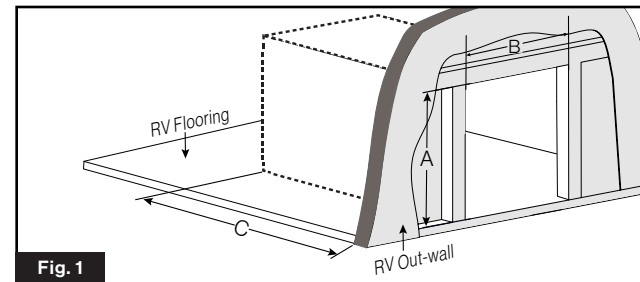

Fig. 1
1. Create a cutout with the following dimensions A and B of Fig. 1.